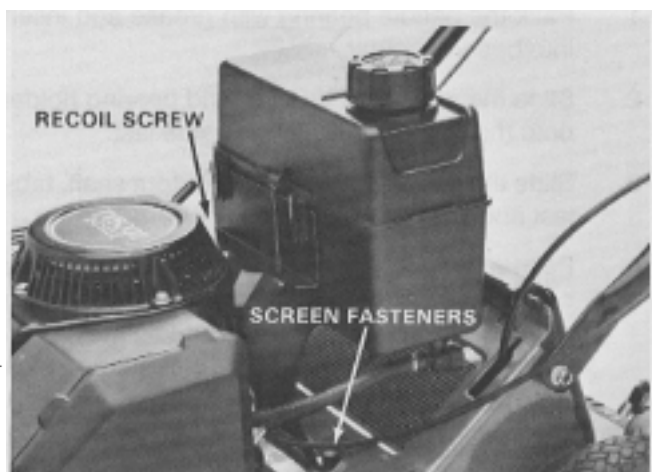

Figure 43
3. Remove the three flanged head self-tapping screws securing the tank to the engine and cutter housing. Remove the tank and screen panel. See Figure 43.